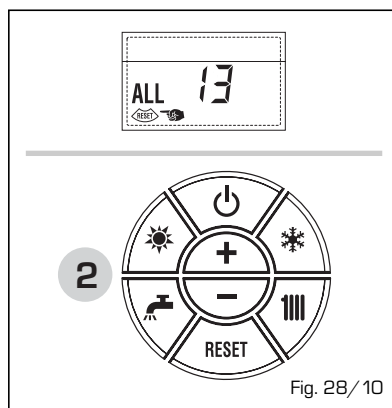

Fig. 28/10
**- ANOMALIA GUASTO SONDA FUMI "ALL 14" (fig. 28/11)**